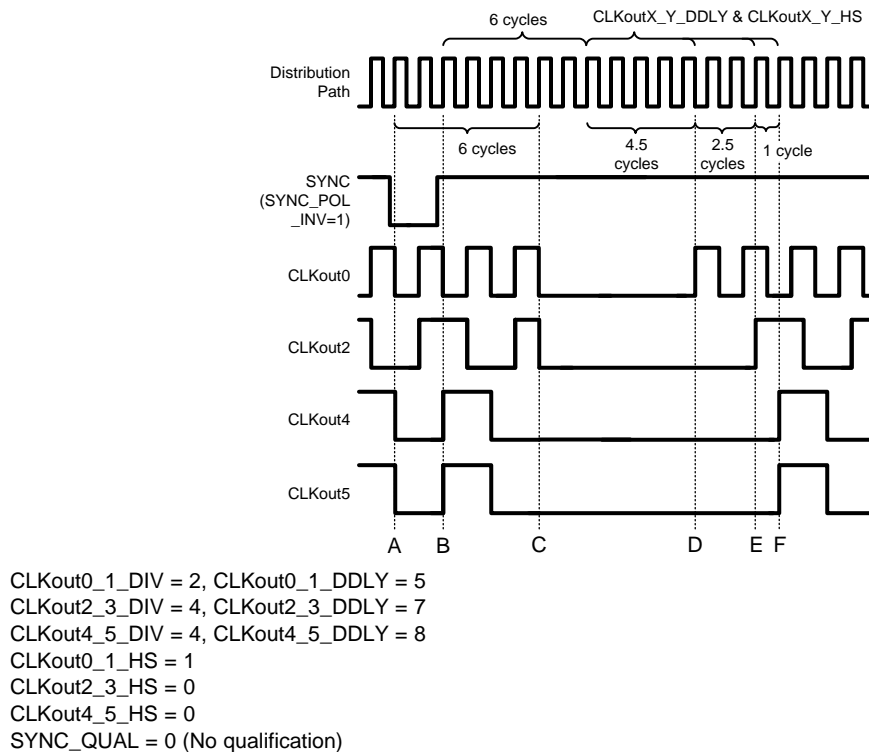

Figure 14. Clock Output Synchronization Using the SYNC Pin (Active Low)
Figure 14 shows clock outputs programmed with different digital delay values during a SYNC event.
Refer to Figure 13 during this discussion on the timing of SYNC. SYNC must be asserted for greater than one clock cycle of the clock distribution path to latch the SYNC event. After SYNC is asserted, the SYNC event is latched on the rising edge of the distribution path clock, at time A. After this event has been latched, the outputs do not reflect the low state for 6 cycles, at time B. Due to the asynchronous nature of SYNC with respect to the output clocks, it is possible that a glitch pulse could be created when the clock output goes low from the SYNC event. This is shown by CLKout4 in Figure 13 and CLKout2 in Figure 14. See Relative Dynamic Digital Delay for more information on synchronizing relative to an output clock to eliminate or minimize this glitch pulse.
Figure 14 shows the timing with different digital delays programmed.
- For example see CLKout4 in Figure 13 and CLKout2 in Figure 14.